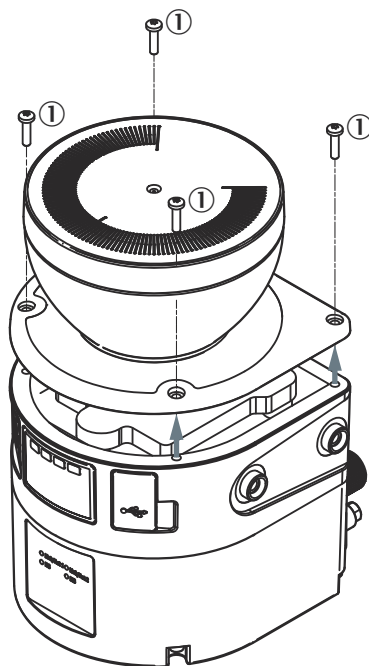

Figure 92: Fixing screws for the optics cover
14. Screw in new fixing screws, see figure 92, page 168.